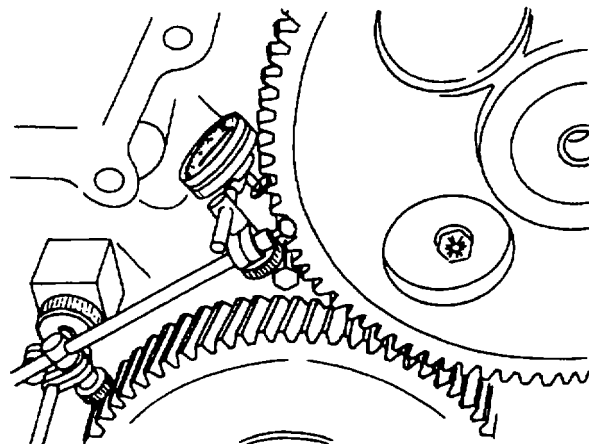

Figure 9-20. Measuring Timing Gear Backlash
- (18) Check the gear train backlash as follows:
- (a) Attach a dial indicator to the gear housing with the plunger on a tooth of the gear to be checked (Figure 9-20).